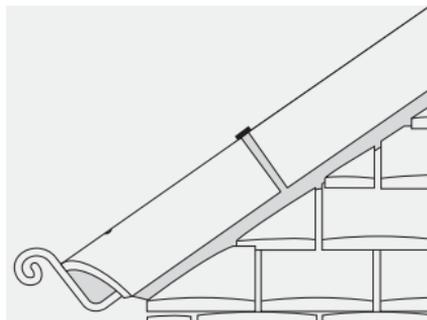

Fig. 16 – Bedded and mechanically fixed third round third hip ridge tiles used as hip capping with hip iron
- 2 Fix a galvanised hip iron at foot of hip as support (Fig. 16).